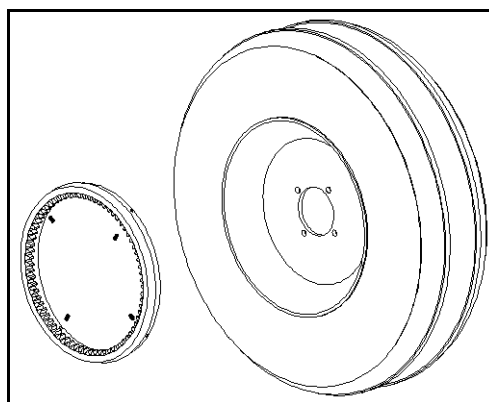

Figure 3.32
1. Position the axle cap of the over-center drive assembly squarely on the axle tube as shown in Figure 3.32.